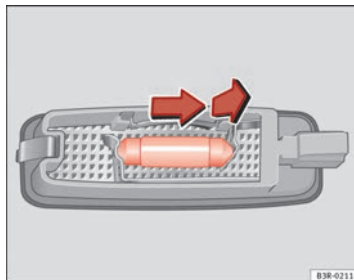

Fig. 244 Removing sun visor light
- Remove the bulb, moving it in the direction of the arrow and outwards ⇒ Fig. 244. ■